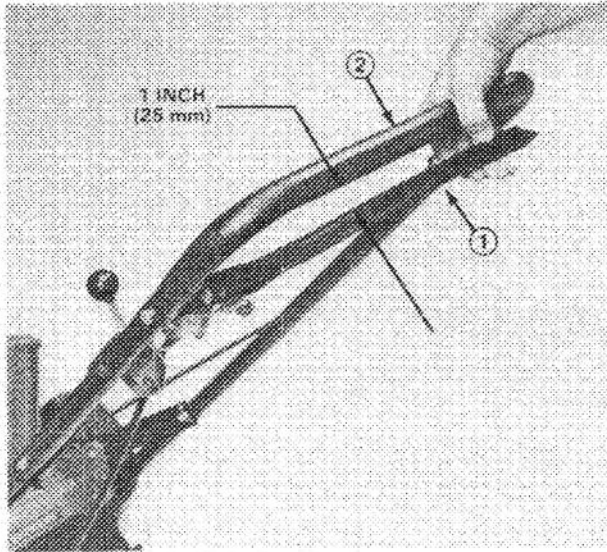

Figure 32
4. Check traction adjustment by slowly pulling mower rearward while slowly squeezing traction control lever toward upper handle. Mower will no longer move rearward when traction drive engages. Traction control lever should be approximately 1 inch (25 mm) from upper handle when traction drive engages (Fig. 32). If loss of traction still occurs after readjustment, repeat steps 4-6.